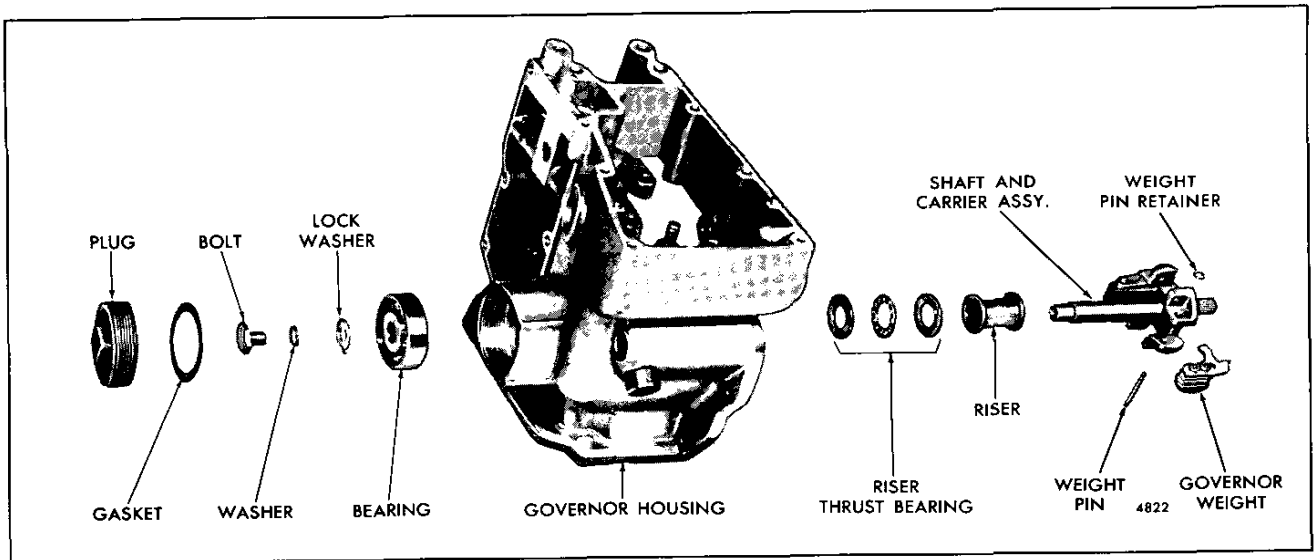

Fig. 12 – Governor Housing and Weight Details and Relative Location of Parts
- b. Remove the weight pin retainer from each weight pin (Fig. 12). Clamp the weight carrier assembly in a vise equipped with soft jaws, then drive the pin out of the carrier and weights by tapping on the grooved end of the pins with a small punch and hammer. Remove the weights from the carrier.